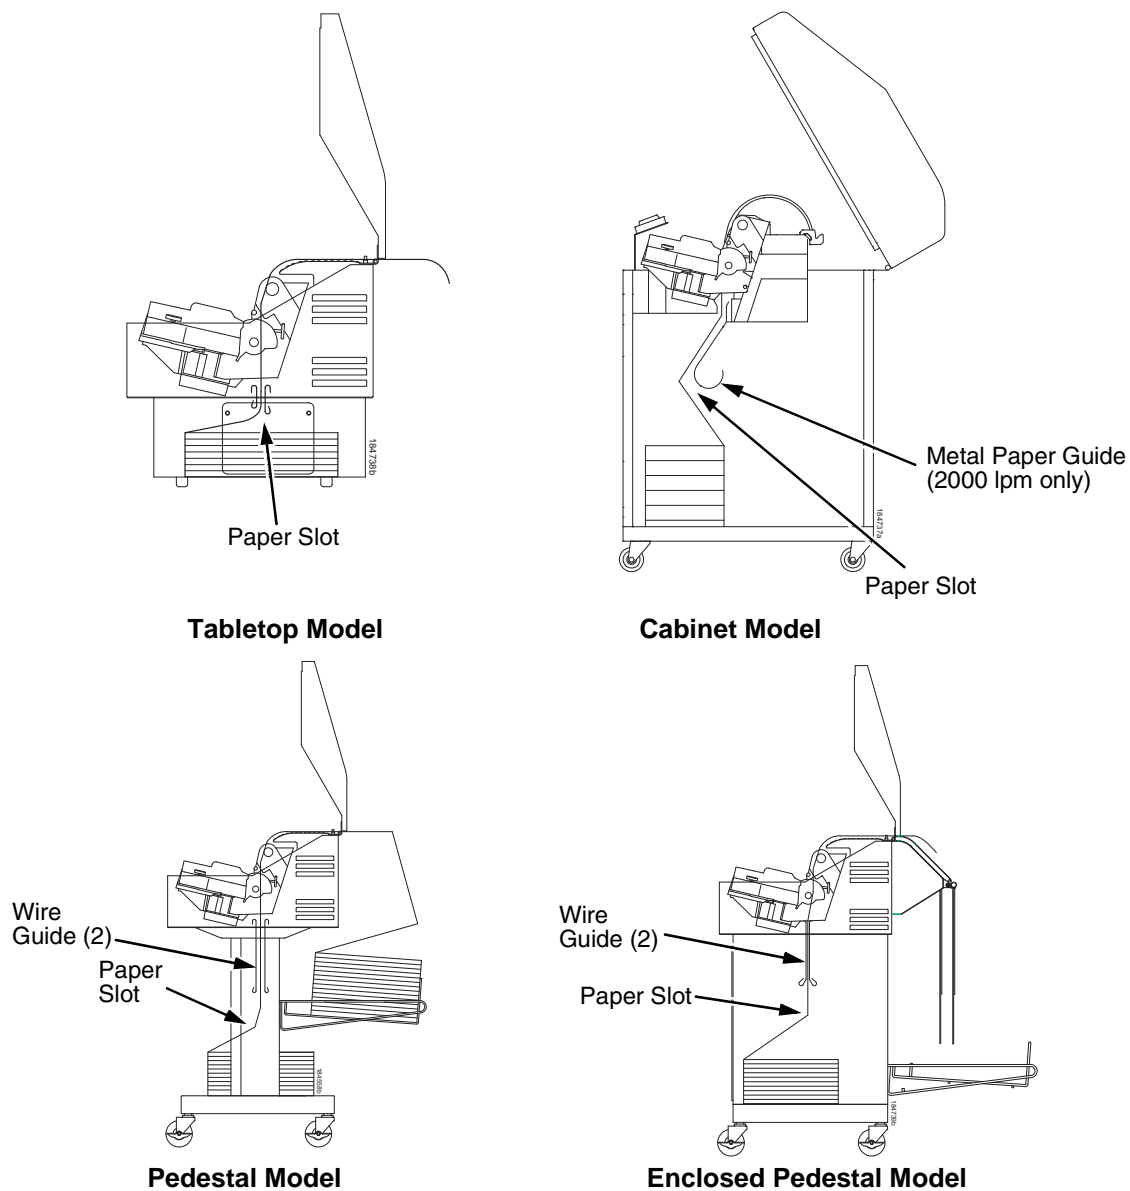

Figure 8. Paper Slot Location
2. **Tabletop models:** place the paper supply on the table underneath the printer, centered under the paper slot. See Figure 8 on 30.
4. Feed the paper up through the paper slot (see Figure 8). It may be easier to feed one corner of the new paper up through the slot first. When this corner can be grasped from the top, rotate the paper back to the normal position.
17. Feed the new paper up through the paper slot. Hold the paper to prevent it from slipping down through the paper slot (see Figure 8 on page 30).